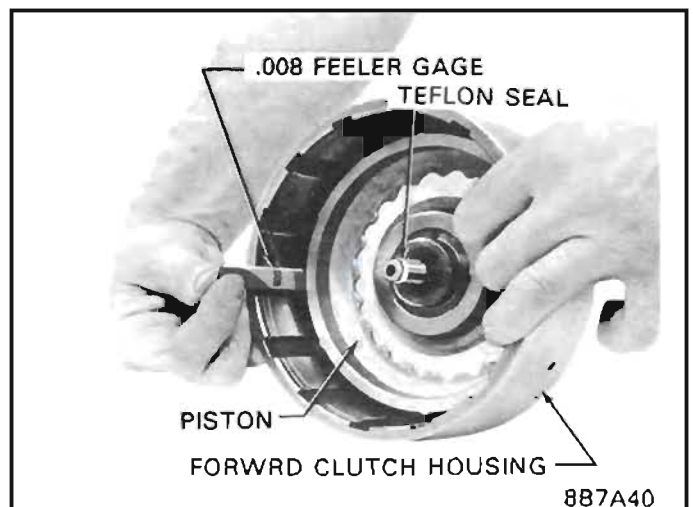

Figure 67 Installing Forward Clutch Piston
- 2. Install the forward clutch piston assembly using a thin feeler gage. See Figure 67.